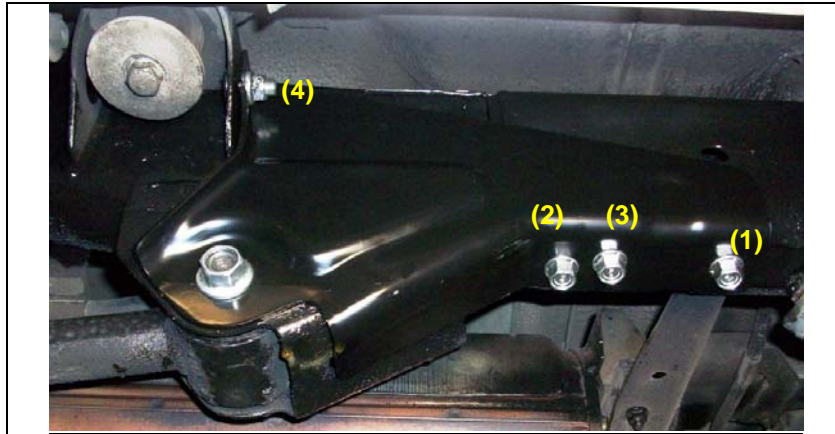

Figure 25
17. Torque bolts in the sequence and to the specifications shown in Figure 25.